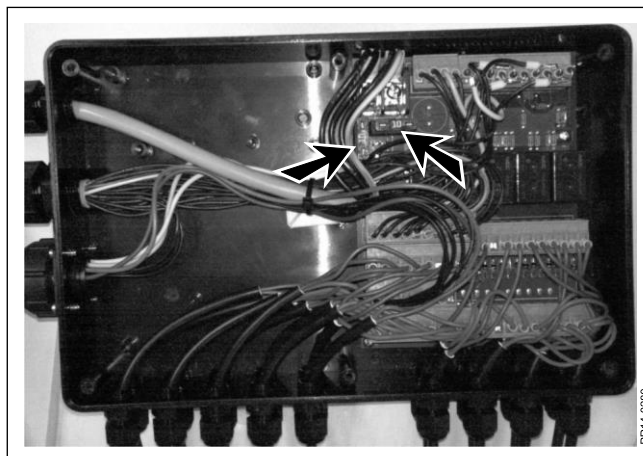

Fig. 7-5
**Fig. 7-5** The control system for the machine contains two 10 A fuses. The fuses must only be replaced with fuses with the same rating. With the exception of the replacement of fuses, servicing must only be carried out by an authorised KONGSKILDE retailer/Service technician.